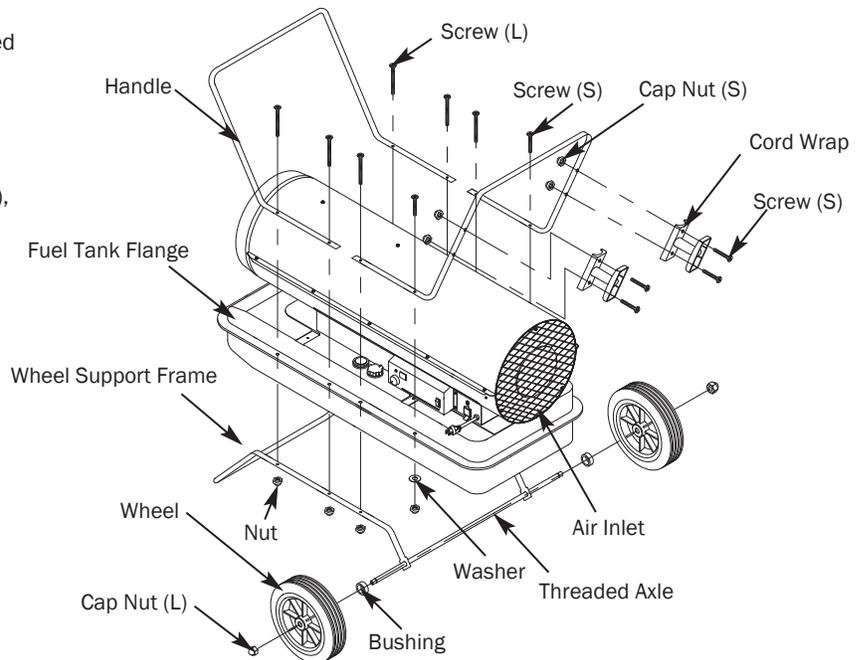

Figure 4 – Wheel and Handle Assembly
Insert screws(S) through rear handle, fuel tank flange, and washer(S) as shown in figure 4 and attach nut finger tight after each screw is inserted.
7. Insert screws through cord wrap, rear handle as shown in Figure 4 and attach nut finger tight after each screw is inserted.